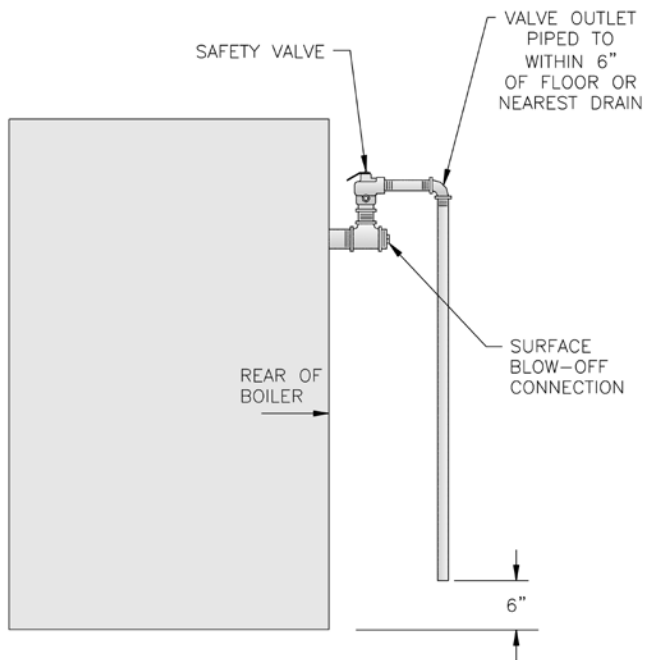

Figure 38a: Steam Boiler - Safety Valve Hook-up
1. Oil, greases & sediments which accumulate in a new boiler and piping must be removed in order to prevent an unsteady water line and carry over of the water into the supply main above boiler. Operate the boiler with steam in the entire system for a few days allowing the condensate to return to the boiler. If the condensate can temporarily be wasted, operate boiler only for the length of time it takes for condensate to run clear. If the latter cannot be achieved or if the condensate is returned to the boiler, boil out the boiler using the SURFACE BLOWOFF connection. See Figure 38a.